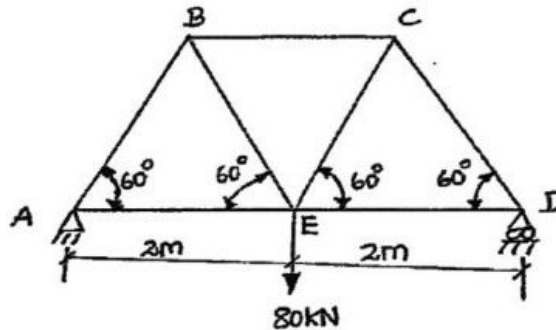

Fig. Q16 (a)
16. (a) Determine the vertical displacement of joint E of truss shown in Fig. Q16 (a) due to given loading and due to member BE and CE being 10 mm too long. Given, for all members cross sectional area = 1000 mm2, Young's modulus = 200 kN/mm2.